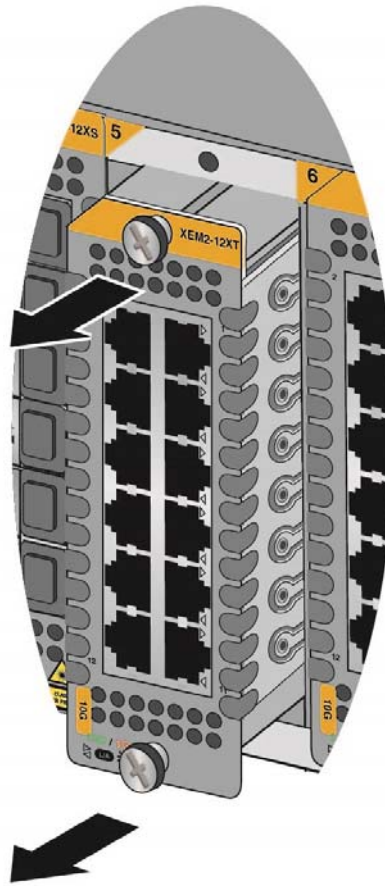

Figure 108. Disconnecting an Ethernet Line Card from the Chassis
5. Carefully pull on the screws on the faceplate to disconnect the line card from the connector on the backplane in the chassis. Refer to Figure 108 on page 147.